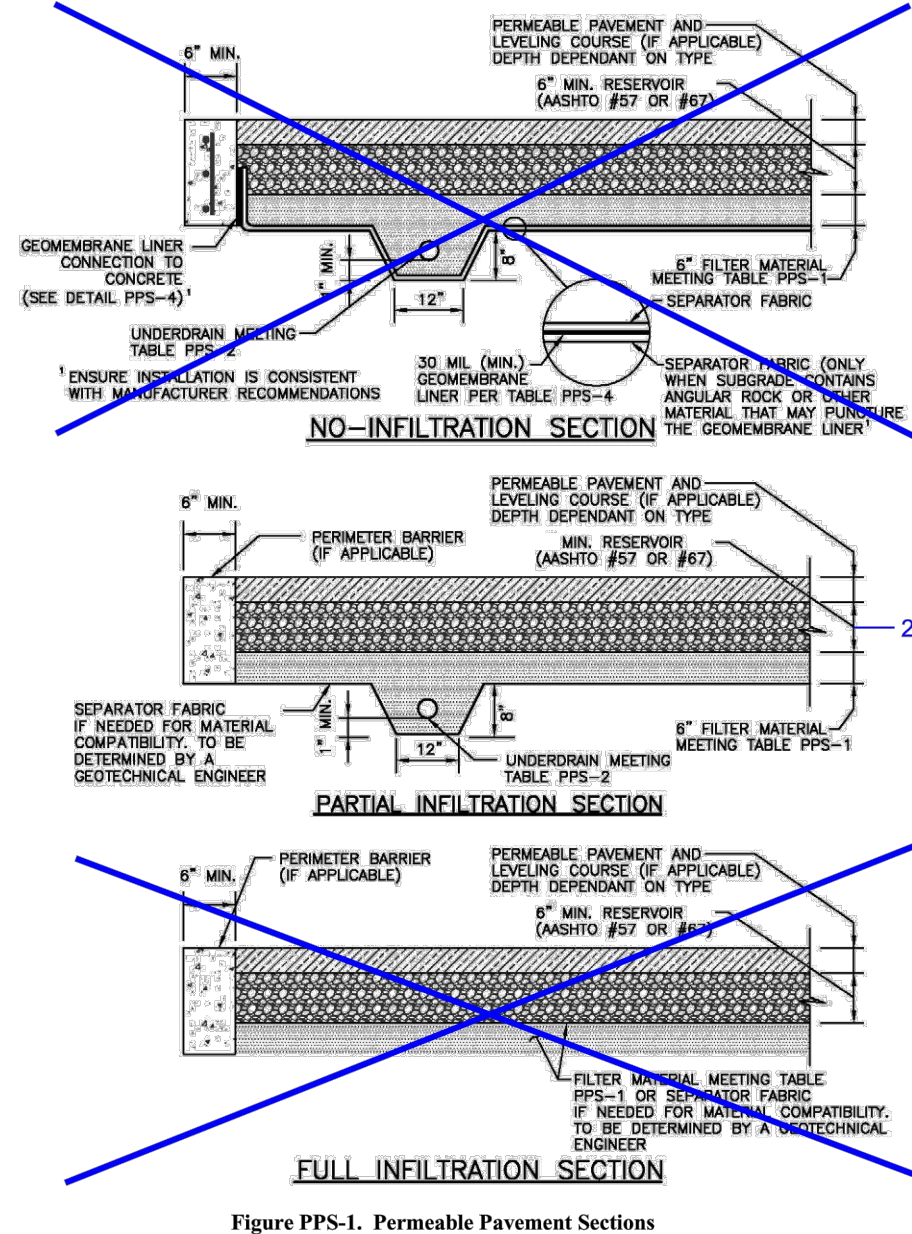

Figure PPS-1. Permeable Pavement Sections
- Subsurface Exploration and Determination of a No-Infiltration, Partial Infiltration, or Full Infiltration Section:** Permeable pavements can be designed with three basic types of sections. The appropriate section will depend on land use and activities, proximity to adjacent structures and soil characteristics. Sections of each installation type are shown in Figure PPS-1.